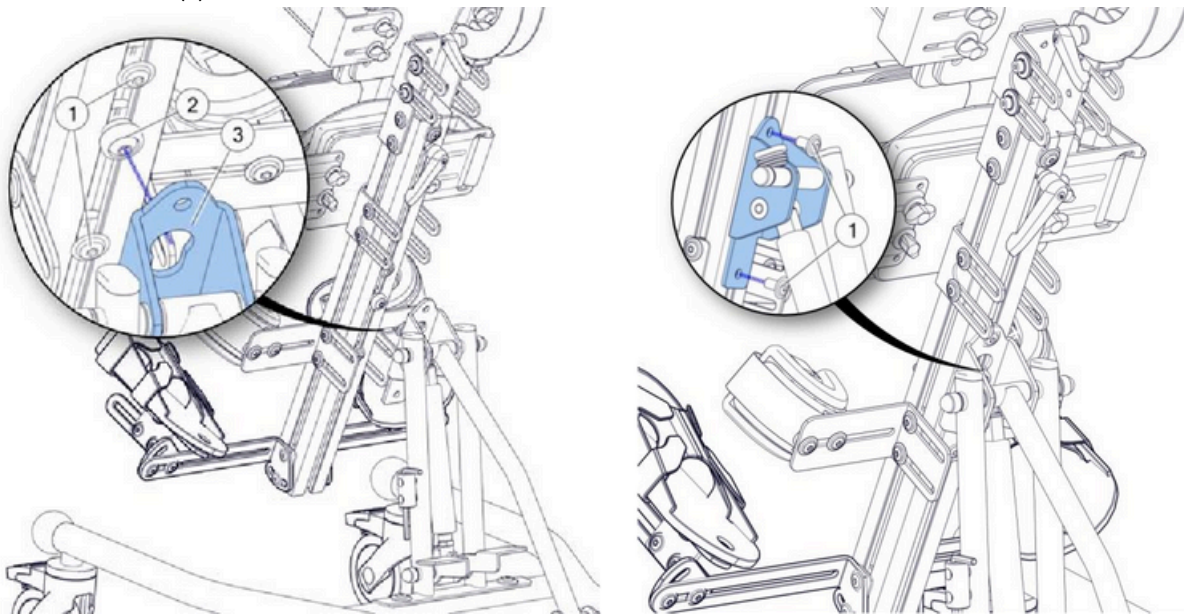

Figure 4
7.1.2. Installation of the column - Figures 4 and 5